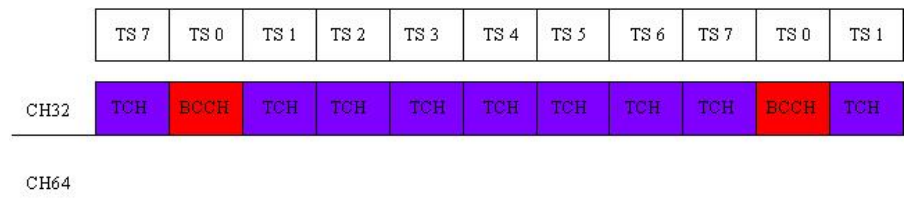

Fig. 3 - Downlink on the same channel without option B95
- BCCH and TCH are on the same channel. This means that an auxiliary generator is not required. However, a channel change or dual-band handover (Fig. 3) cannot be performed.